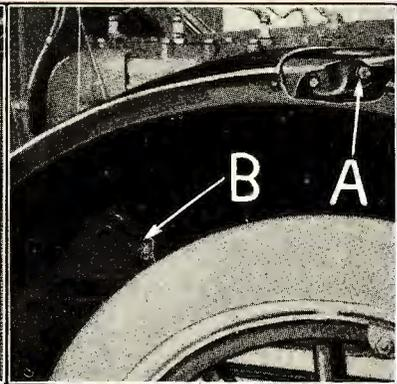

Fig. 11
- (b) Loosen nut on fender eye bolt (See "A" Fig. 11).